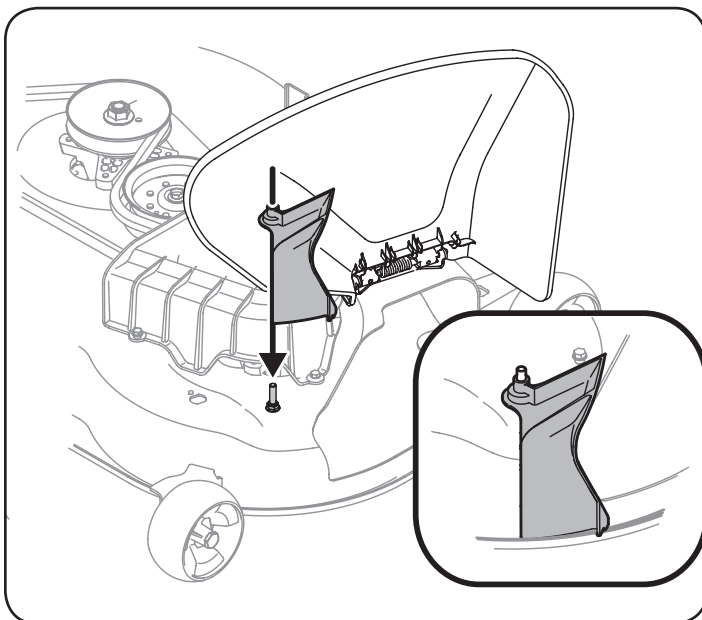

Figure 4
2. On 54-inch **Stamped Decks Only**, position the chute adapter over the pin. See Figure 4.